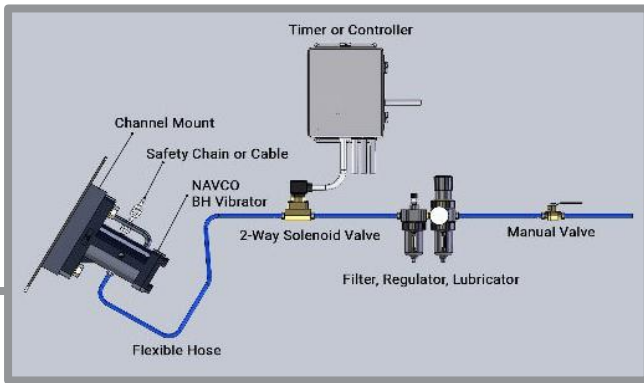

Figure 1 (Air inlet located on top headplate for single impact BH models)
1. Install air control package (Figure 1).